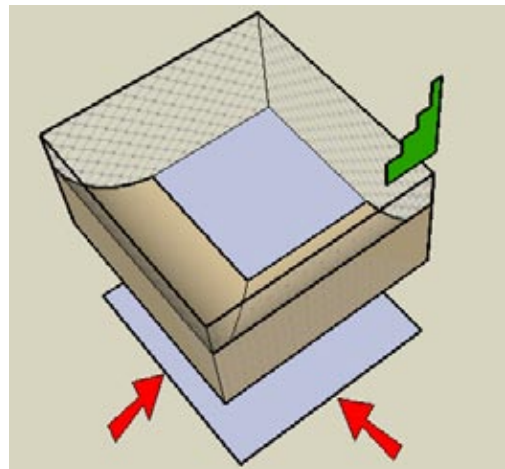

Figure 4-56
10. Use the two edges indicated in Figure 4-56 as the Follow Me path for the arc face.